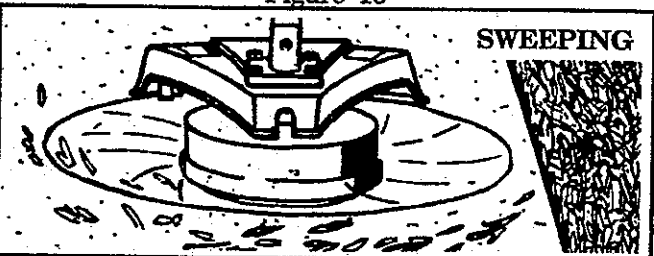

Figure 14
4. **SWEEPING** – Figure 14 . The fanning action of the rotating line can be used for a quick and easy clean up. Keep the line parallel to and above surfaces being swept and move tool from side to side.